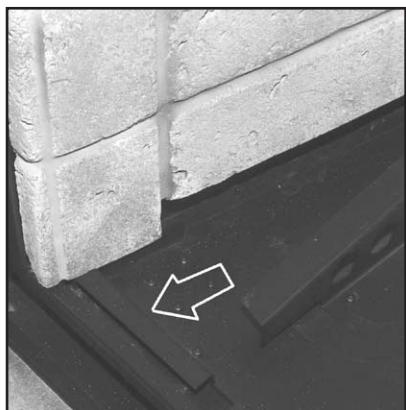

Figure 63: Left Firebox Liner Panel on Front Edge of Firebox.
- Install the Left Firebox Liner Panel; it sits on the bottom front edge of the firebox (see Figure 63 & 64), a support bracket at the lower rear of the firebox, and is held in by a retainer at the top of the firebox. Adjust the panel retainers as required.